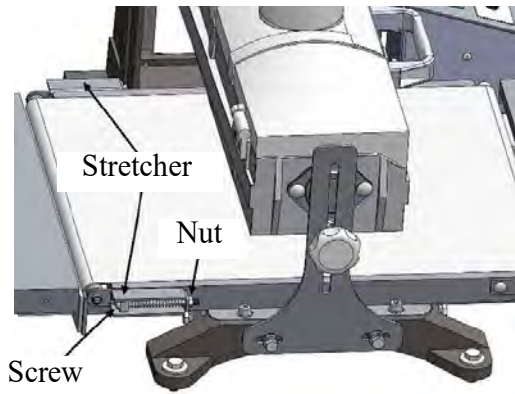

Fig. 30: Tension feed belt
Step 2: Make sure that the feed belt is centered on the rollers. If this is not the case, loosen the belt tension equally on both sides of the belt. This is done by holding the hex nut while turning the screw (Fig.30) counterclockwise until the belt can be moved from side to side by hand. Then center the belt on the rollers.